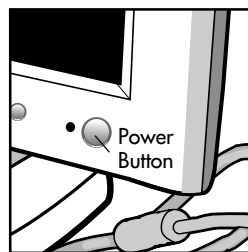

Figure F.1
6. Turn on the monitor (Figure F.1) and the computer.